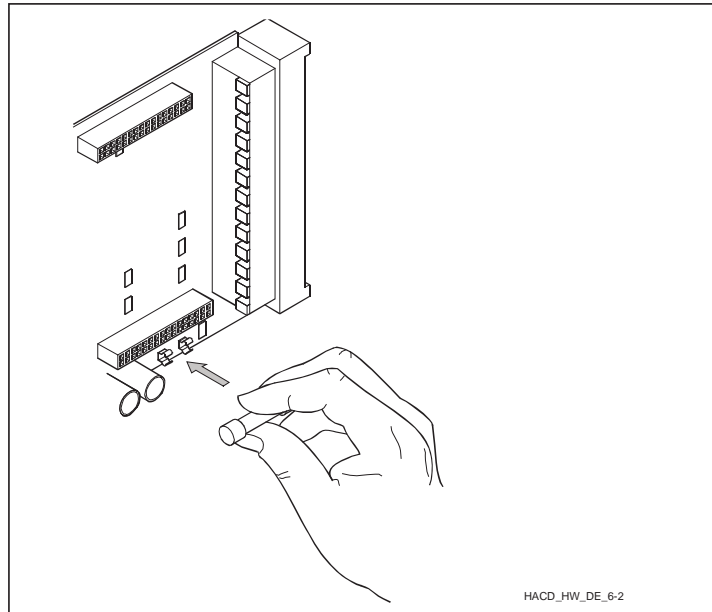

Fig. 11 Fuse on the HACD-DPQ Controller Card
- Gently remove the fuse from the fuse holder (see Fig. 11 Fuse on the HACD-DPQ Controller Card).